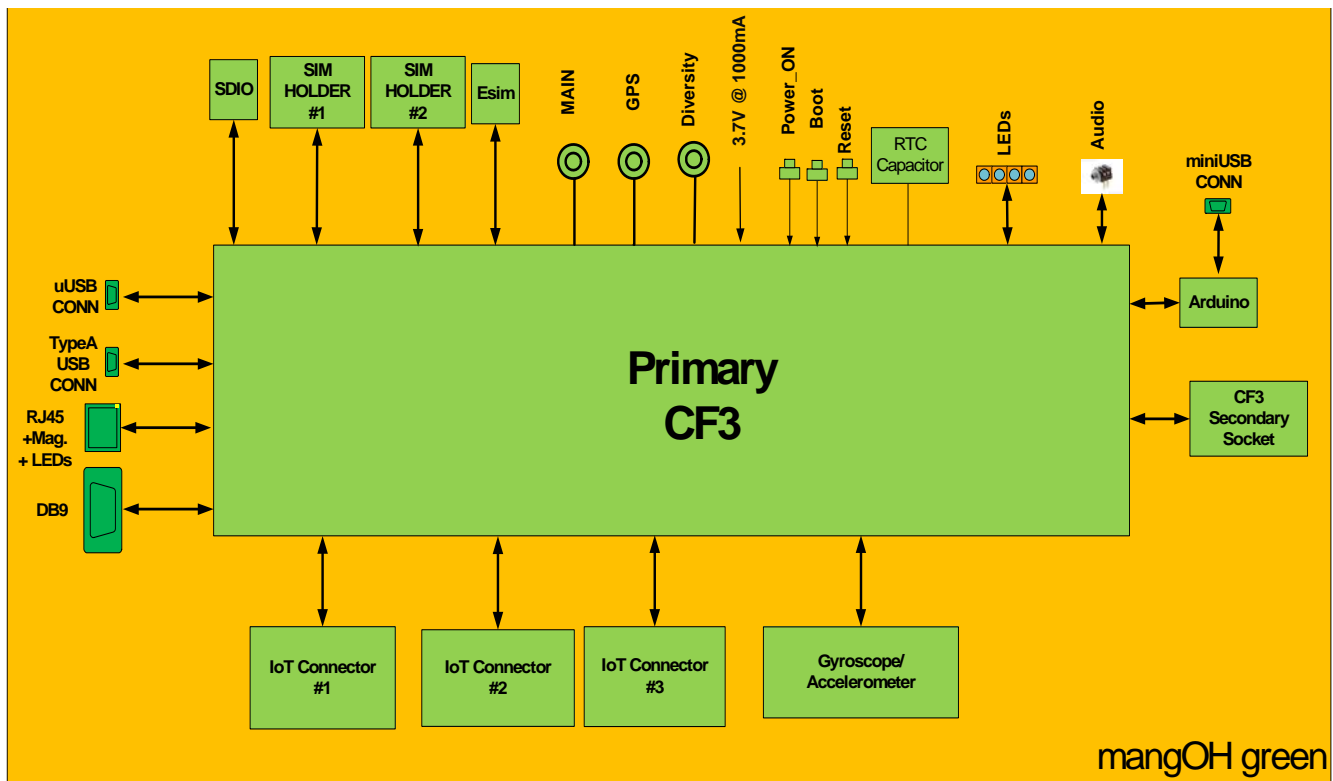
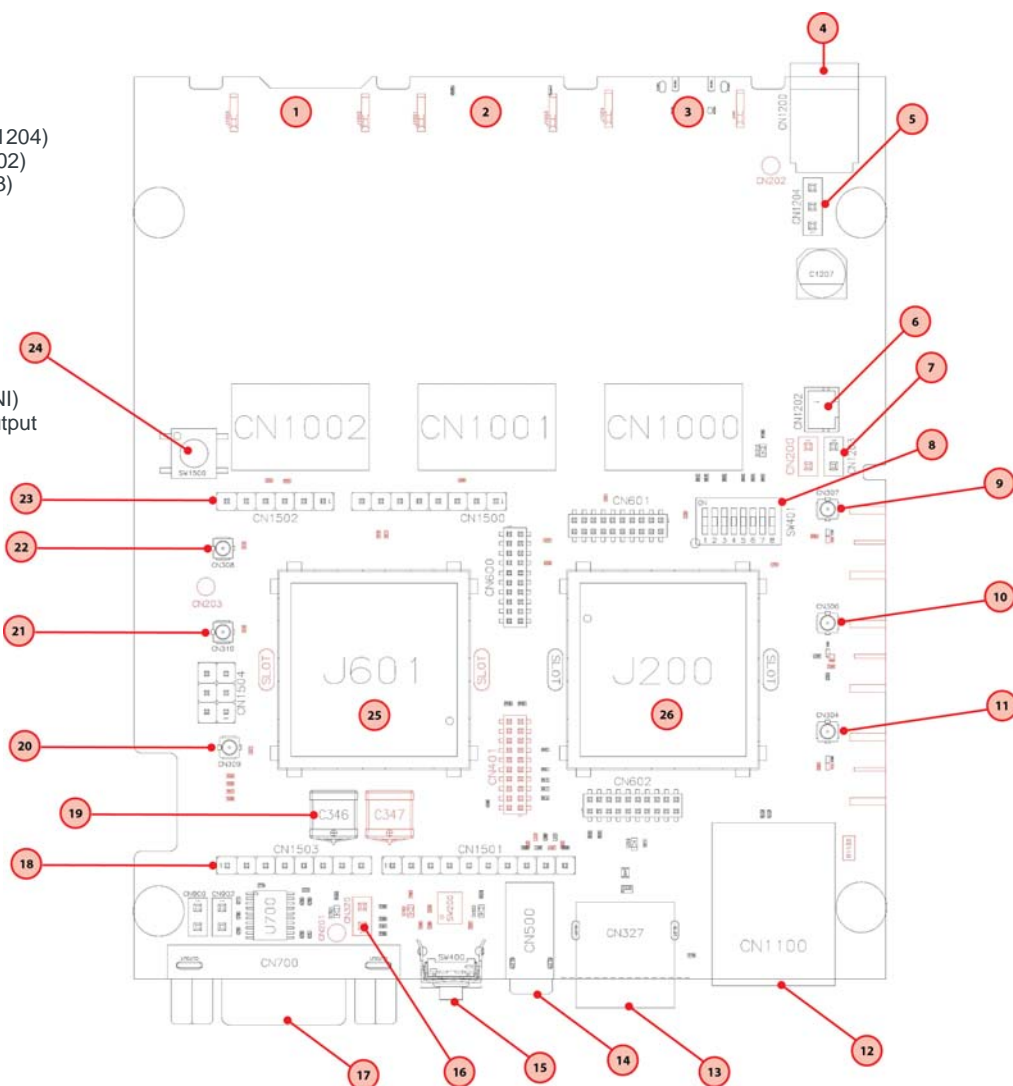
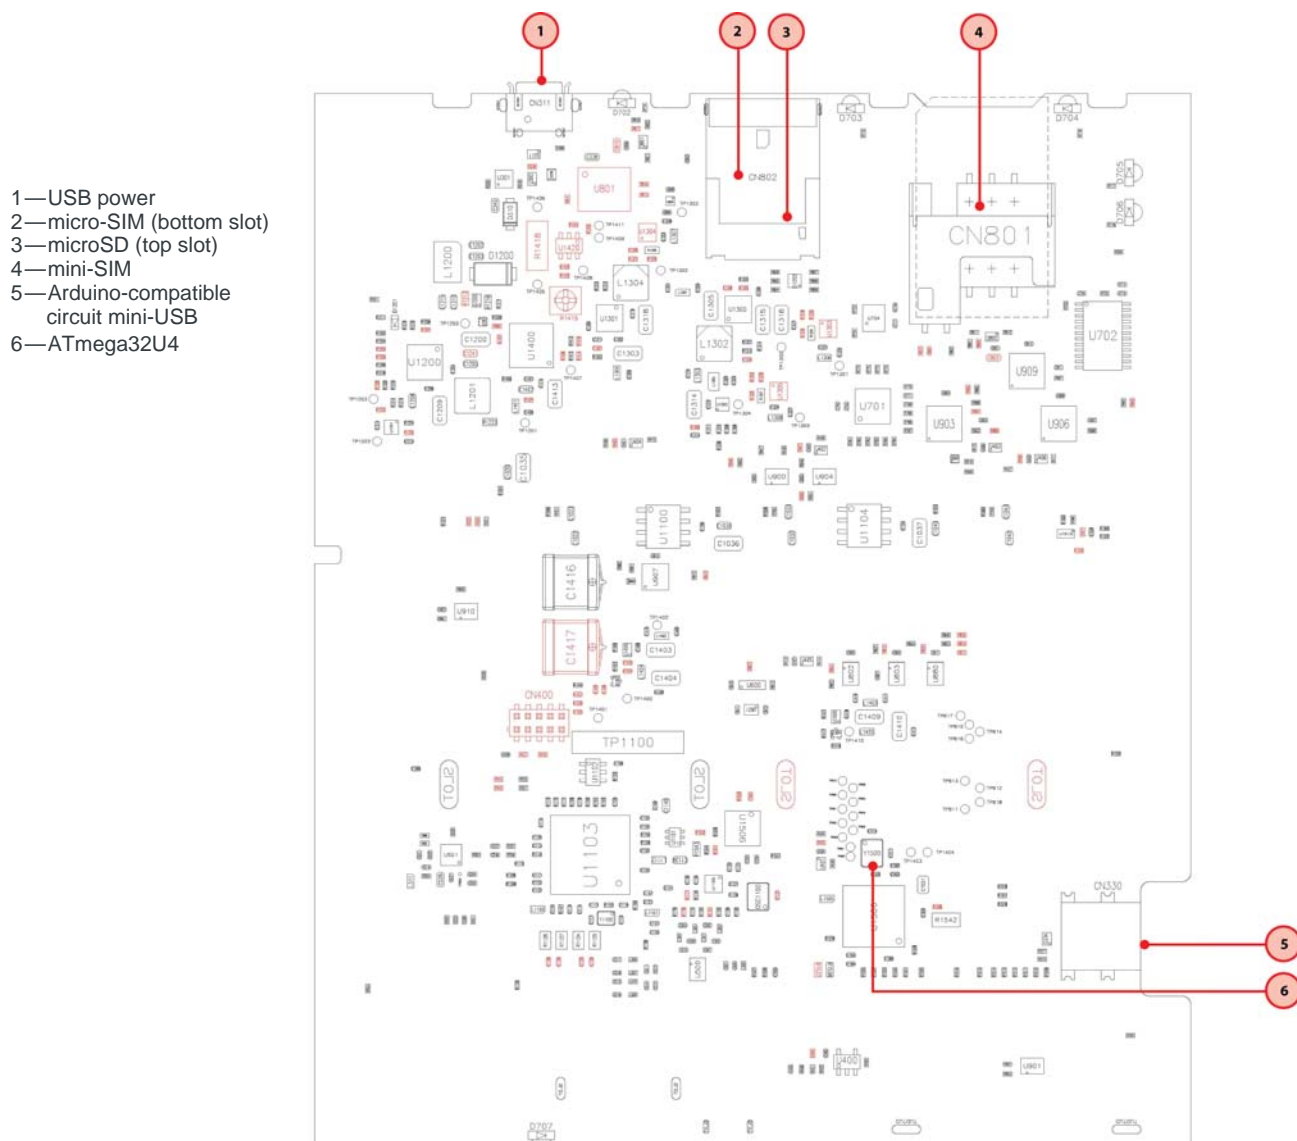

Figure 2-1: mangOH green Hardware Components Overview
Figure 2-2: mangOH green—Top Side Switches/Connectors
Figure 2-3: mangOH green—Bottom Side Switches/Connectors
Figure 2-1 provides an overview of the mangOH green's hardware components relative to the primary CF3 module, and Figure 2-2 on page 7 and Figure 2-3 on page 8 show their locations.
a. Board designators (e.g. CN311, SW401, etc.) are for reference against the published mangOH green schematic. For component locations on the board, see Figure 2-2 on page 7 and Figure 2-3 on page 8.